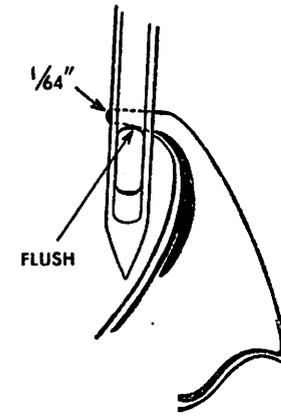

Figure No. 6A
- B. Turn machine pulley until looper is in approximate position shown in Figure No. 6A. With wrench No. 1-147B, slightly loosen set screws C, Figure No. 7. Raise or lower needle bar and/or turn machine pulley to bring needle and looper in proper relationship per Figure No. 6A. **Do not change looper setting.** Make sure needle is not bent and is in the needle bar as far as it can go, see paragraph 11, page 7.